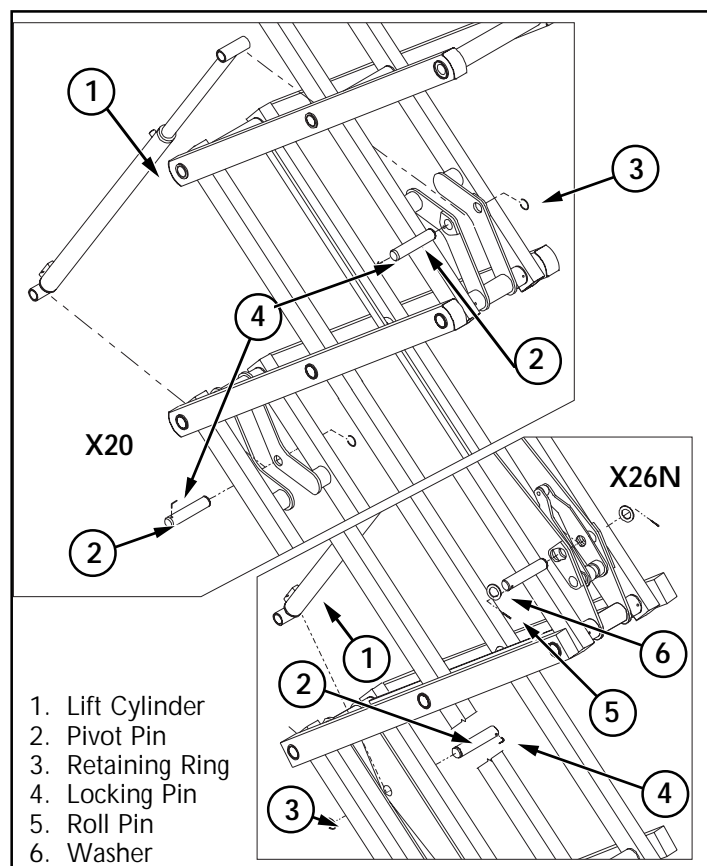

Figure 4-16: Lift Cylinder Installation
4.12 Lift Cylinder (Figure 4-16)